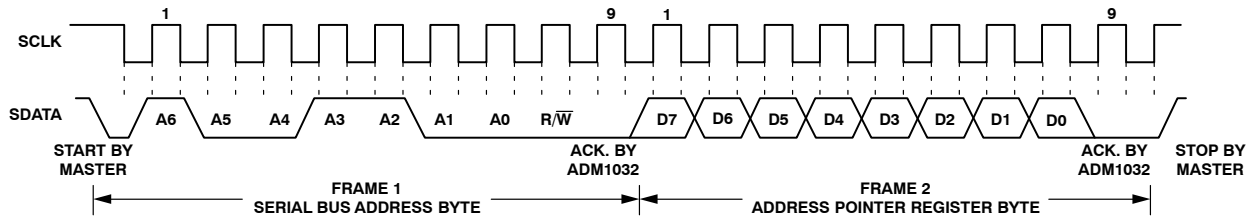
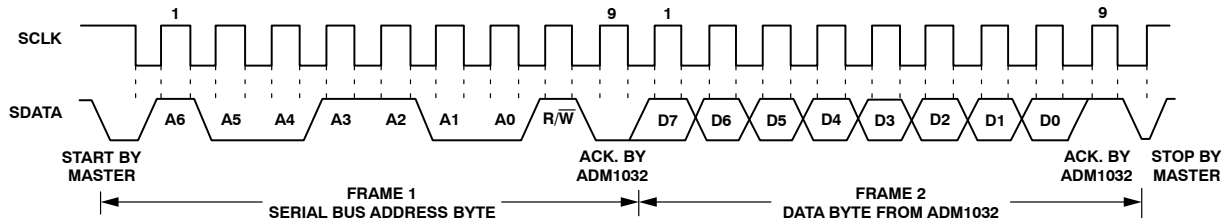

Figure 14. Writing to the Address Pointer Register Only
Figure 15. Reading Data from a Previously Selected Register
1. If the address pointer register value is unknown or not the desired value, it is first necessary to set it to the correct value before data can be read from the desired data register. This is done by performing a write to the ADM1032 as before, but only the data byte containing the register read address is sent because data is not to be written to the register. This is shown in Figure 14. A read operation is then performed consisting of the serial bus address, $R/\overline{W}$ bit set to 1, followed by the data byte read from the data register. This is shown in Figure 15.
2. If the address pointer register is known to be at the desired address already, data can be read from the corresponding data register without first writing to the address pointer register and Figure 14 can be omitted.